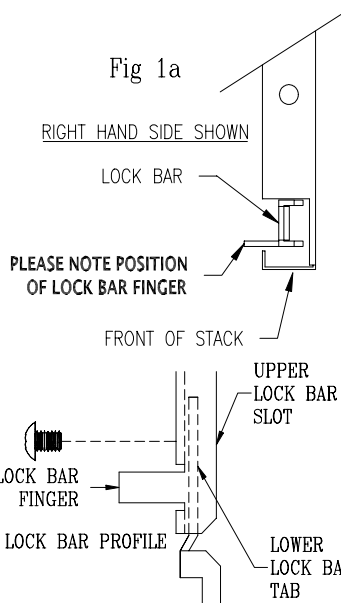

Fig 1a
- 2 Insert the two (2) lock bars (see Fig. 1a) into the lock bar channels going from the underside of the tier up. Make sure lock bar finger faces toward front of tier (Fig. 1).